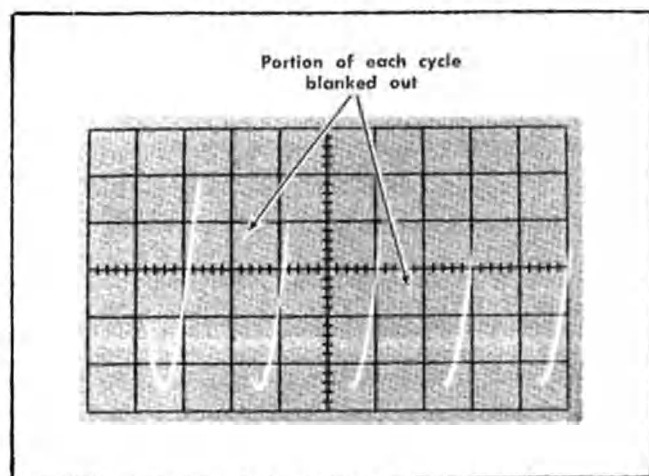

Fig. 5-6. Typical CRT display when checking external blanking.
e. CHECK—CRT display for blanking of a portion of each cycle of the waveform (see Fig. 5-6). The INTENSITY control setting may need to be changed to show blanking.